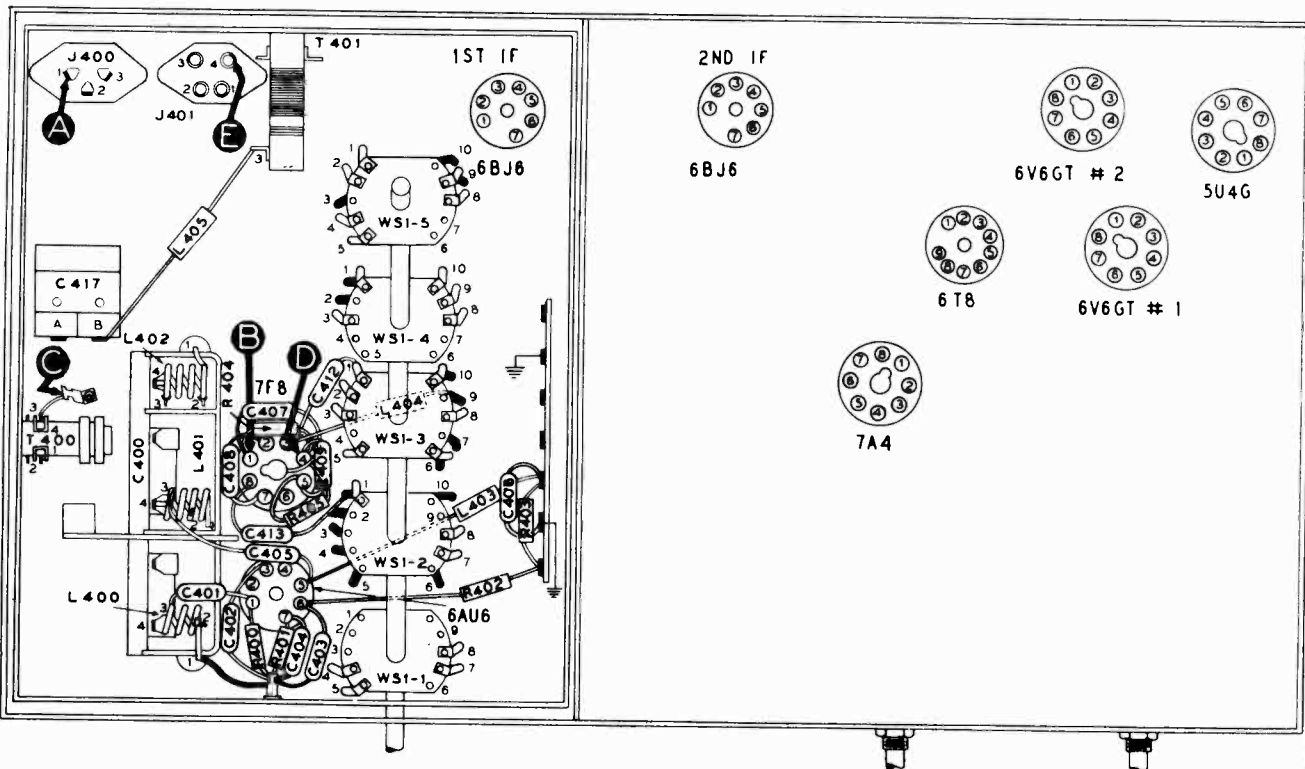

FIGURE 4. BOTTOM VIEW, SHOWING SECTION 4 TEST POINTS
**LOCATIONS OF COILS:** For the locations of coils L400, L401, and L402 (steps 8, 9, and 10), refer to figure 4.